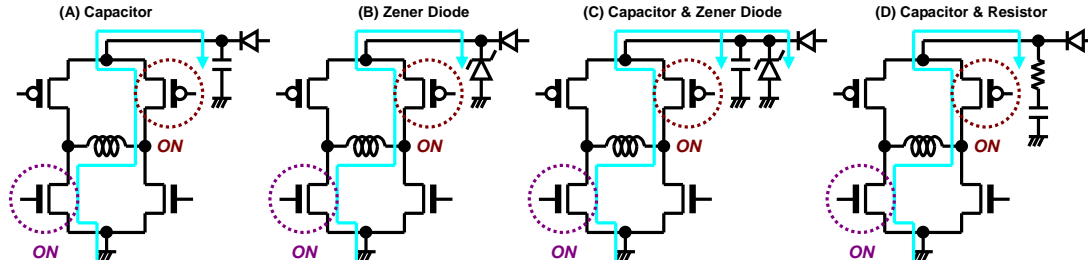

Figure 30. Measure Against VCC and Motor Driving Outputs Voltage
When the absolute maximum rated voltage may be exceeded due to the voltage rise by the back electromotive force, place a (A) capacitor or (B) Zener diode between the VCC pin and the GND pin for regenerative current path as shown in Figure 30. If further measures are necessary, use measures of (A) and (B) together like as (C). The capacitor and the resistor can be used to have better voltage surge protection like as (D).